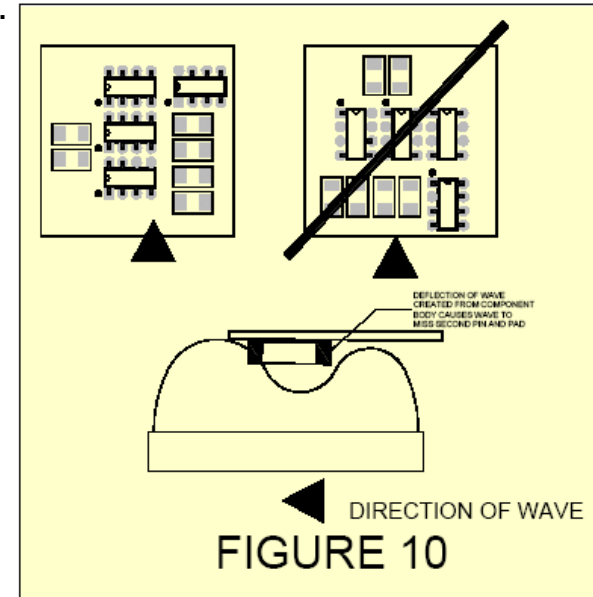

FIGURE 10
**Figure 10.** Component orientation all needs to be considered in conjunction with the assembly processes that will be used to assemble your PCBs. Processes such as wave solder are particularly sensitive to component orientation. Proximity of components, even distribution, and height ratios also affect the type of process and the total time a board stays on the assembly line.